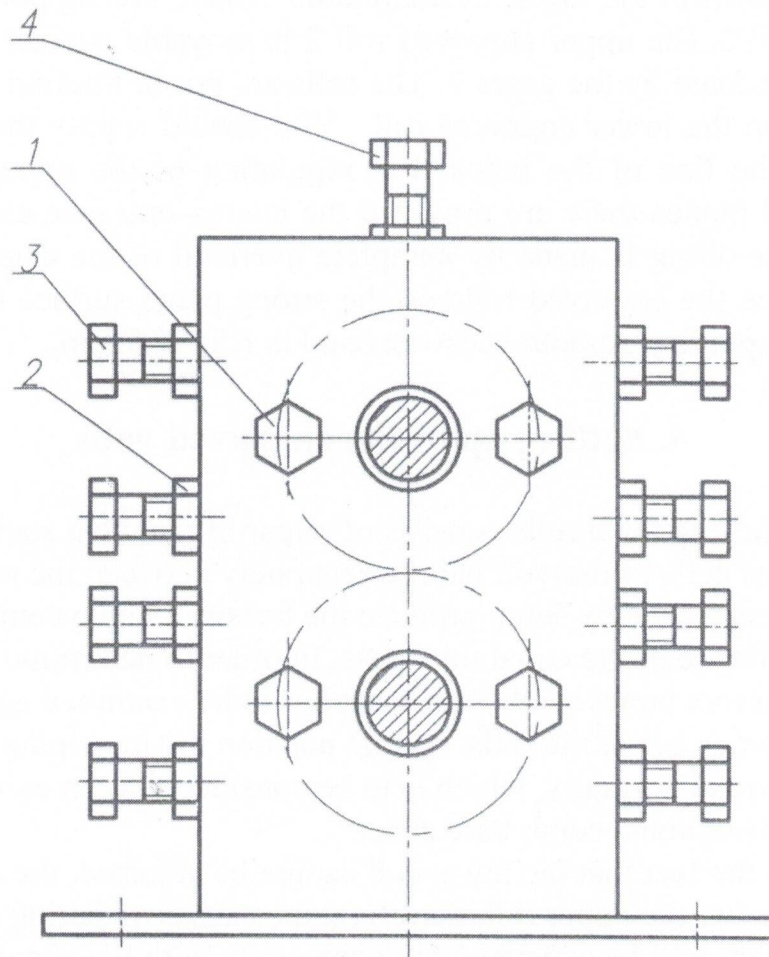

Fig. 3.
All parts, by means of which upper roll is adjusted relatively to the lower roll are shown in Fig. 3.
The setting up is carried out by displacement of rear end of the upper roll in the horizontal plane, by means of lateral adjusting screws 3 (Fig. 3).
4.4. The adjustment of the beeswax honeycomb base sheet thickness is carried out by the pressing screws 4 (Fig 3).